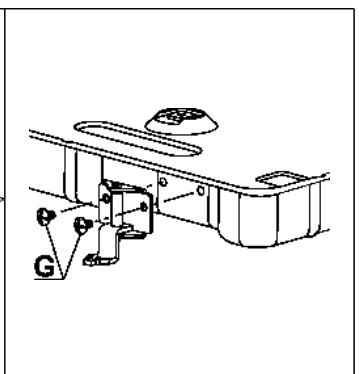

FIG. 6
- Remove the strip of protective paper from the seal it the hooks into their relative housings in the unit and set the hob into the hole in the cabinet. Lock it in place with the relative fixing screws "G" (see fig. 6).